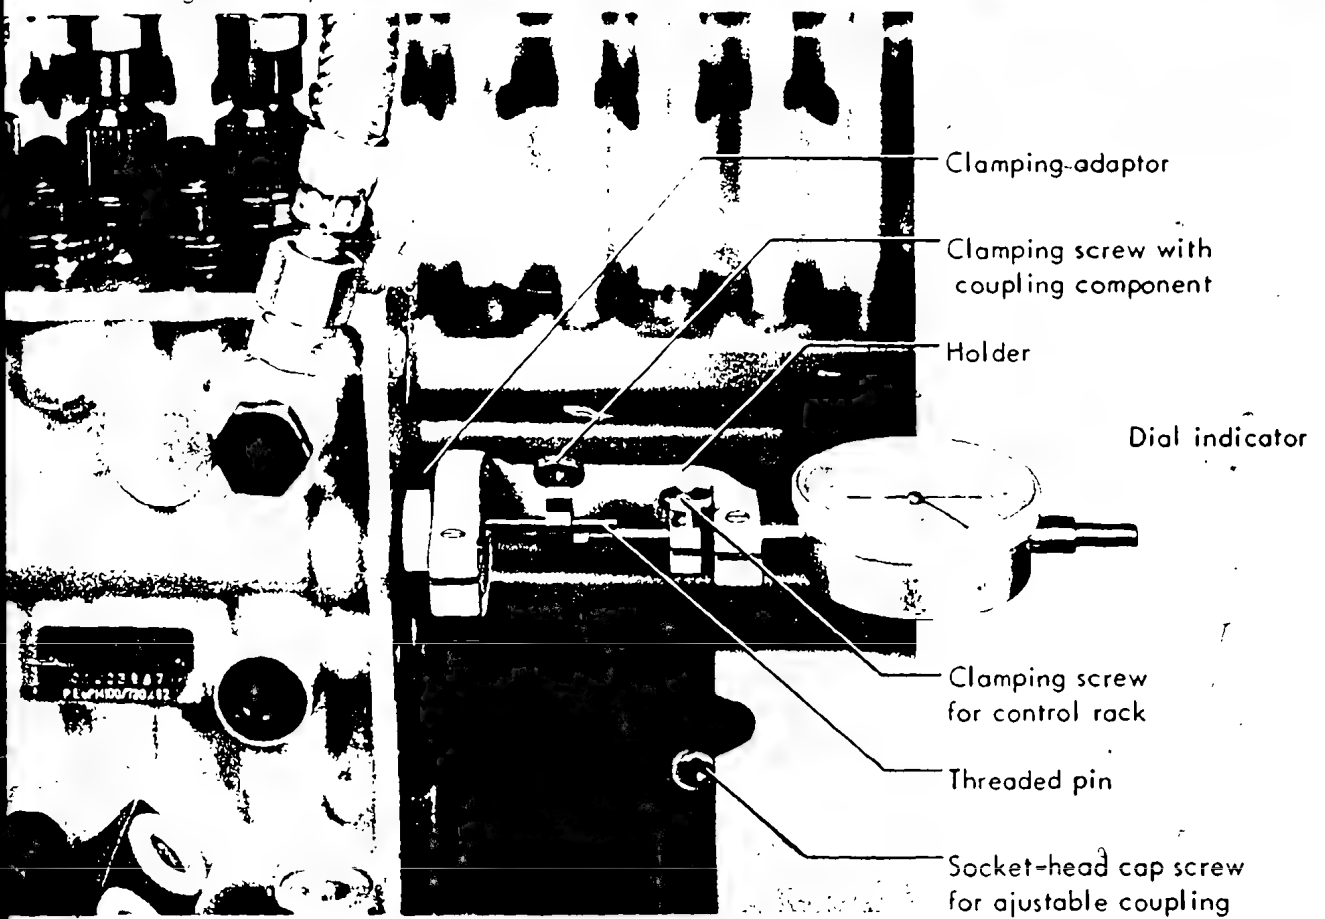

Fig. 6 Control rack travel measuring device with dial indicator
6. With the control rack in the STOP position, set the dial indicator to zero and clamp on the coupling component tight. Ensure that the control rack can travel the full distance (approx. 21 mm) (Fig. 6).